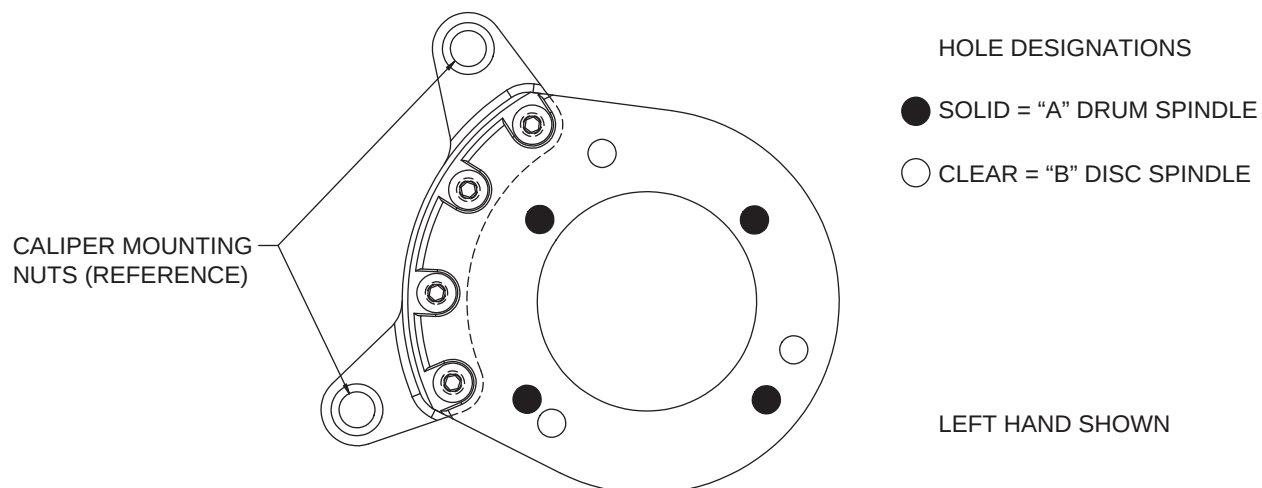
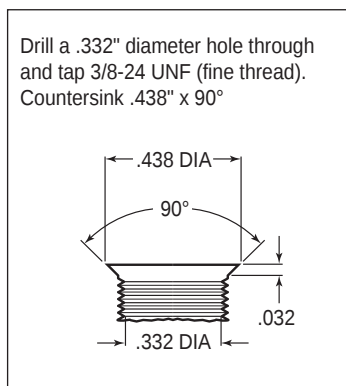
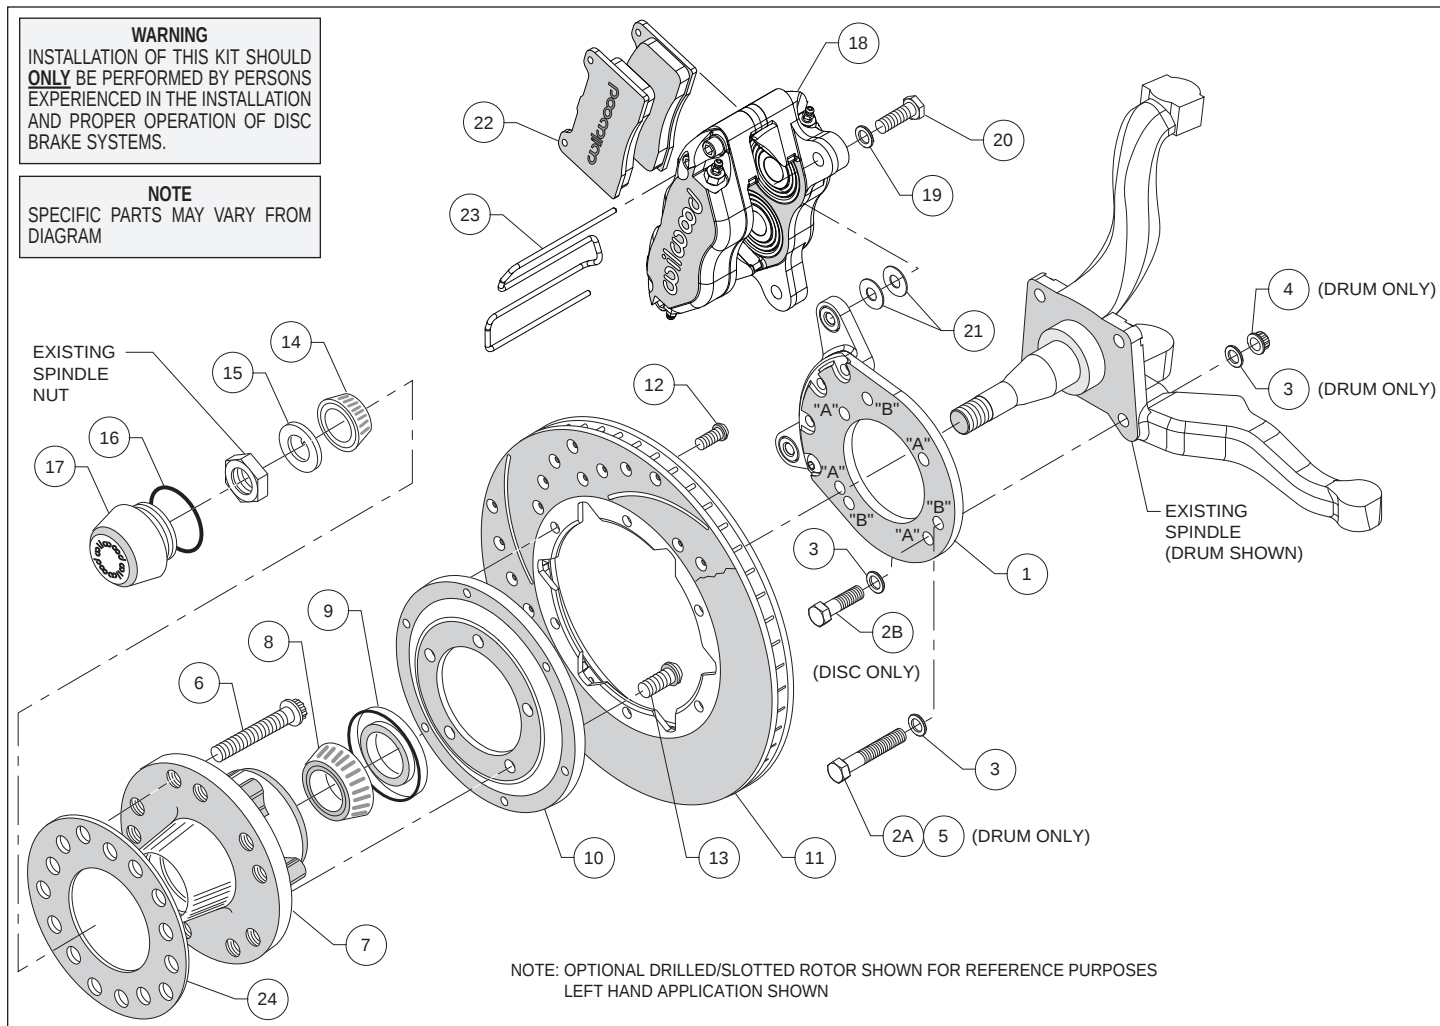
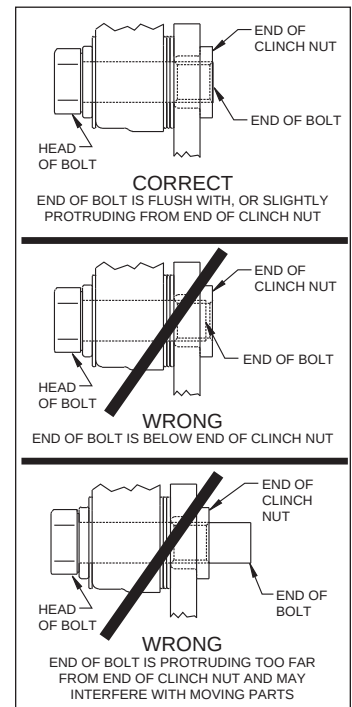

Figure 1. Wilwood Caliper Mounting Bracket
Figure 2. Drill and Tap Detail
Figure 4. Typical Installation Configuration
Figure 5. Clinch Nut Engagement Diagram
This kit has been designed for use with both the disc brake or the drum brake configuration of vehicle. The only difference is in how the Wilwood caliper mounting bracket is installed. The same bracket is used for both configurations; the disc brake version utilizes three mounting holes while the drum brake application uses four mounting holes (see Figure 1). For your convenience we have supplied bolt kits for both applications (see parts list and Figure 4 as necessary). Use the bolt kit that is applicable to your vehicle and disregard the other one.
NOTE: This modification should be performed by a qualified machinist and completed before assembly of the Wilwood disc brake kit begins. Using the caliper mounting bracket as a template (refer to Figure 1 as necessary), locate and verify the three original holes on the spindle that need to be modified. Drill a .332" diameter hole through all three holes, then tap 3/8-24 UNF (fine thread). Countersink the holes to .438" diameter x 90°, as shown in Figure 2.
Assembly Instructions (numbers in parenthesis refer to the parts list, and Figure 4 on the preceding pages): **CAUTION:** All mounting bolts must fully engage clinch nuts. Be sure to check that all bolts are either flush or protruding through flanged side of clinch nut after shimming, Figure 5.
•**NOTE:** This kit uses the same mounting bracket (1) for both the drum and disc brake spindles. The drum version, Photo 1, uses four mounting bolts (designated "A"), while the disc version, Photo 2, uses three (designated "B"). Refer to Figures 1 and 24 for the basic installation position of the bracket and the "A" and "B" reference designations (not physically marked on the brackets).
For Drum Spindle: Align bracket, using the four "A" holes, to the face of the spindle and attach using bolts (2A and 5), washers (3), and lock nuts (4), as shown in Figure 4. Ensure that the flanged heads of the clinch nuts in the bracket are facing outboard, Photo 1. Torque nuts to 30 ft-lb.
For Disc Spindle: Align bracket, using the three “B” holes, to the face of the spindle and attach using bolts (2B) and washers (3), as shown in Figure 4. Finger tighten. Ensure that the flanged heads of the clinch nuts in the bracket are facing outboard, Photo 2. Remove bolts one at a time, apply red *Loctite*® 271 to threads, and torque to 40 ft-lb.
- Orient the rotor (11) and the rotor adapter (10) as shown in Figure 4 and Photo 5. Attach the rotor to the adapter using bolts (12). Using an alternating sequence, apply red *Loctite*® 271 to the threads, and torque to 25 ft-lb.
- Mount the adapter/rotor assembly (10/11) to the hub (7) using bolts (13), as shown in Figure 4 and Photo 6. Using an alternating sequence, apply red *Loctite*® 271 to the threads, and torque to 55 ft-lb.
- NOTE:** Please reference the caution statement at the beginning of the assembly instructions. Mount the caliper (18) onto the caliper mounting bracket (1) using bolts (20) and washers (19), as shown in Figure 4. Initially place two .035" thick shims (21) on each bolt between the caliper and the bracket, Photo 9. Temporarily tighten the mounting bolts and view the rotor (11) through the top opening of the caliper. The rotor should be centered in the caliper, Photo 10. If not, adjust by adding or subtracting shims between the bracket and the caliper. Always use the same amount of shims on each of the two mounting bolts. **NOTE:** The end of each bolt must be flush with or slightly protruding from the head of the clinch nut, as shown in Figure 5. If necessary place spare shims between washer (19) and caliper